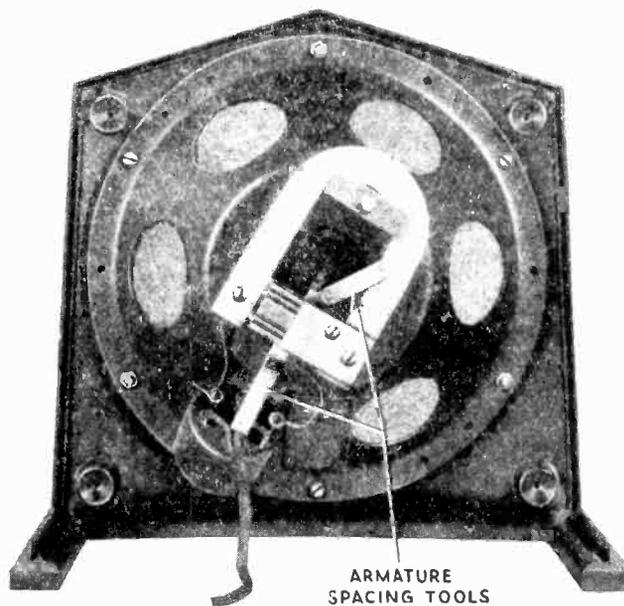
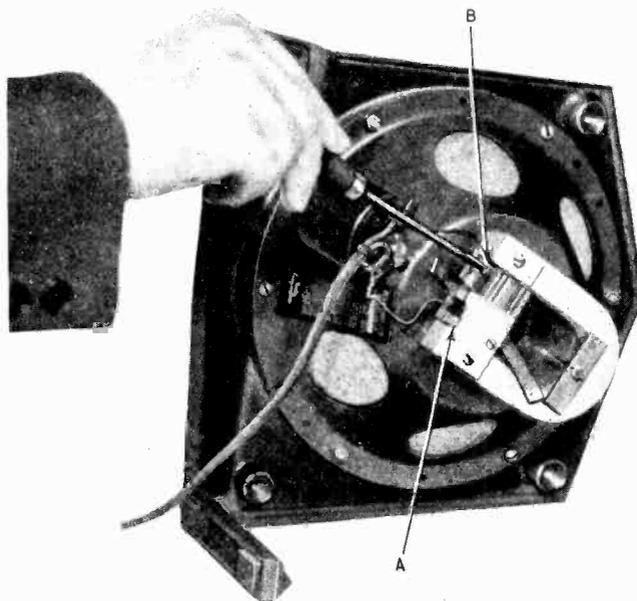
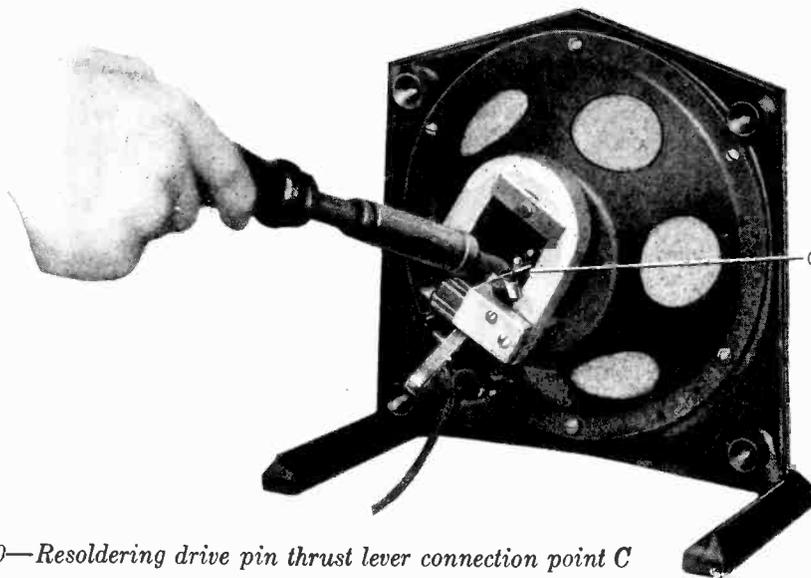

Figure 8—Armature spacing tools in place for adjustment of armature
Figure 9—Loosening screws A and B to relieve tension on armature
Figure 10—Resoldering drive pin thrust lever connection point C
Two of these tools are necessary when adjusting the armature. Place one tool in the space between the armature and pole pieces of the motor mechanism at the end next to the filter unit. This is shown in Figure 8. The other tool is placed at the other end of the armature a little to one side in order to clear the drive pin located at this end of the armature. By loosening the two screws A and B, Figure 9, any tension in either direction, that may be on the armature is released, and the spacer tools will provide the correct clearance or spacing. Now while the spacer tools are in place apply a hot soldering iron to the drive pin thrust lever connection point C, Figure 10, and heat the solder sufficiently to allow the drive pin to find its normal position with regard to the thrust lever. The iron is then removed, screws A and B are tightened and the spacer tools removed. This adjustment correctly aligns and balances the armature so that no abnormal strain is imposed upon it in any direction.
- (d) Remove the thrust lever supporting screw *D*, Figure 14, and apply a hot soldering iron to the thrust lever armature drive pin connection point *C*, Figure 10. The thrust lever and driving rod may now be removed.
- (e) Place spacer tools in position to adjust the armature and tighten screws *A* and *B*, Figure 9.